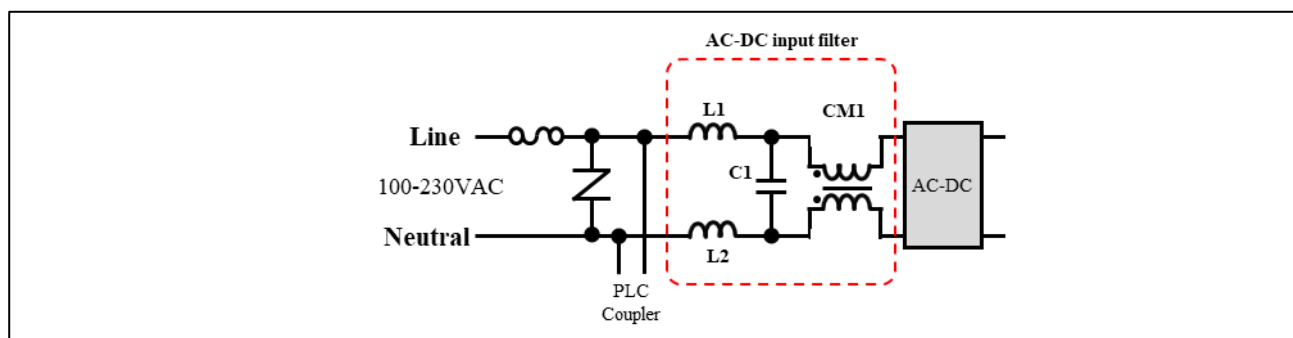

Figure 5-1 Example of input filter for AC-DC power supply circuit
- Figure 5-1 shows an example of an input filter for an AC-DC power supply circuit, and Table 5-1 shows an example of its circuit constants.